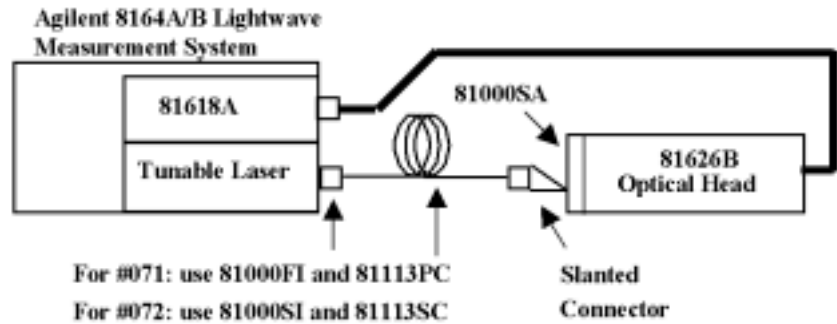

Figure 27 Test Setup for Power Linearity Tests
- 1 Set up the equipment as shown in Figure 27: